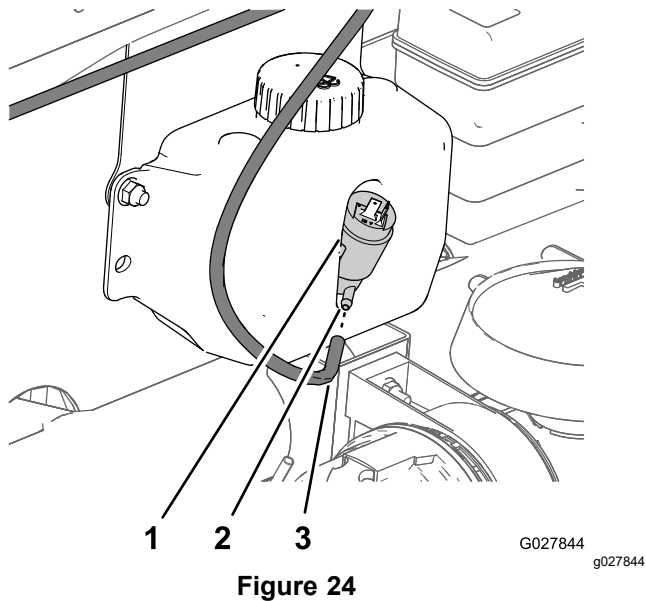

Figure 24
1. At the washer-fluid tank, align the end of the hose to the barbed fitting in the washer pump (Figure 24).
2. Push the hose onto the fitting until the hose fully seats onto the fitting (Figure 24).
- A. At the washer fluid tank, remove the hose from the barbed fitting at the pump (Figure 24).
- C. Push the hose onto the fitting until the hose fully seats onto the fitting (Figure 24).